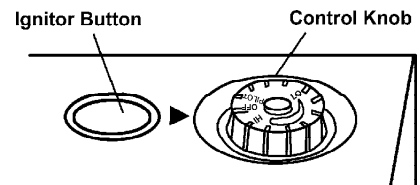

Figure 19 - Control Knob In The OFF Position
4. Wait five(5) minutes to clear out any gas. Then smell for gas, including near the floor. If you smell gas, STOP! Follow "B" in the safety information on the side of heater. If you don't smell gas, go to the next step.
5. Turn control knob counterclockwise ↻ to the PILOT position. Press in control knob for five(5) seconds. (see Figure 19).
8. Turn control knob counterclockwise ↻ to desired heating level. The main burner should light. Set control knob to any heat level between HI and LO. (see Figure 19)